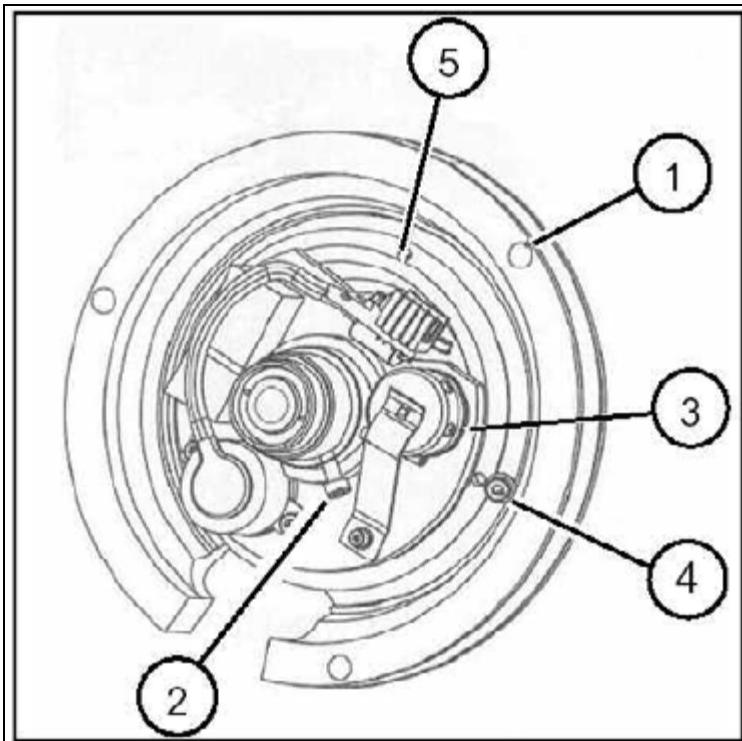

Fig. 13: Replacing the camera and the I.I. optics\_2
3. Loosen the clamping screw (4/Fig. 13 / p. 46).
4. Rotate the clamping ring (5/Fig. 13 / p. 46) a half rotation in the counterclockwise direction to loosen the camera. For this purpose, insert an Allen wrench (2.5 mm) into the hole (5/Fig. 13 / p. 46) and push the clamping ring in the counterclockwise direction.
1. Remove the 3 M4 screws (1/Fig. 13 / p. 46).